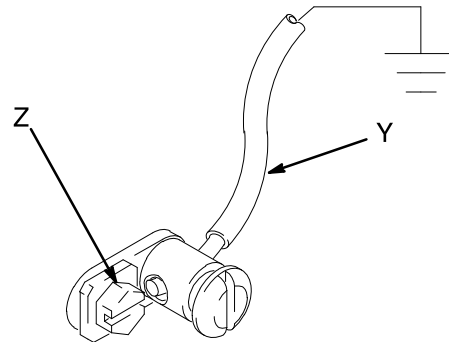

FIG. 2
Remove the ground screw (Z) and insert through eye of ring terminal at the end of ground wire (Y). Fasten ground screw back onto pump and tighten securely. See Fig 2. Connect the other end of the wire to a true earth ground. Order Part No. 222011 Ground Wire and Clamp.